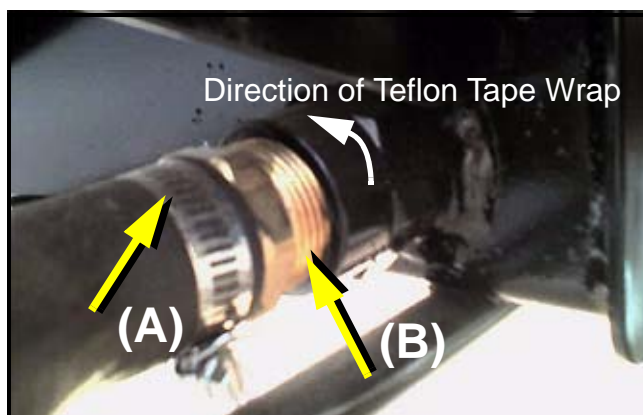

FIGURE 2
5. Using a 1 3/8" open end or adjustable wrench, loosen the brass filter fitting (B) and back out three (3) complete revolutions. Be careful not to remove completely or fluid will drain from tank.
6. Refer to Figure 2. Using teflon tape pipe sealant, firmly wrap the exposed threads on the brass filter fitting with 2-3 full wraps being careful not to over-stretch or tear the teflon tape.